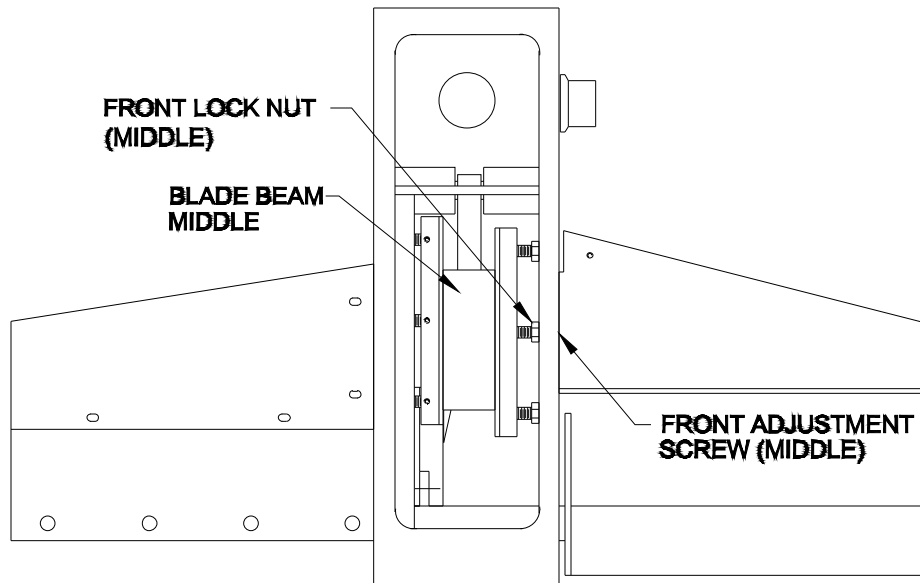

Fig 13
4. Turn the "MAIN POWER SELECTOR" to "ON" and allow the MPS to reset. Turn the "MAIN POWER SELECTOR" to "BLADE ADJUST". Press the two (2) black cut buttons and start the main motor.
5. Use the two (2) black cut buttons and jog the blade beam down and centered on the middle gib adjusters on the blade beam. Turn the "MAIN POWER SELECTOR" to "OFF".
6. Repeat step 3. See Fig. 13.